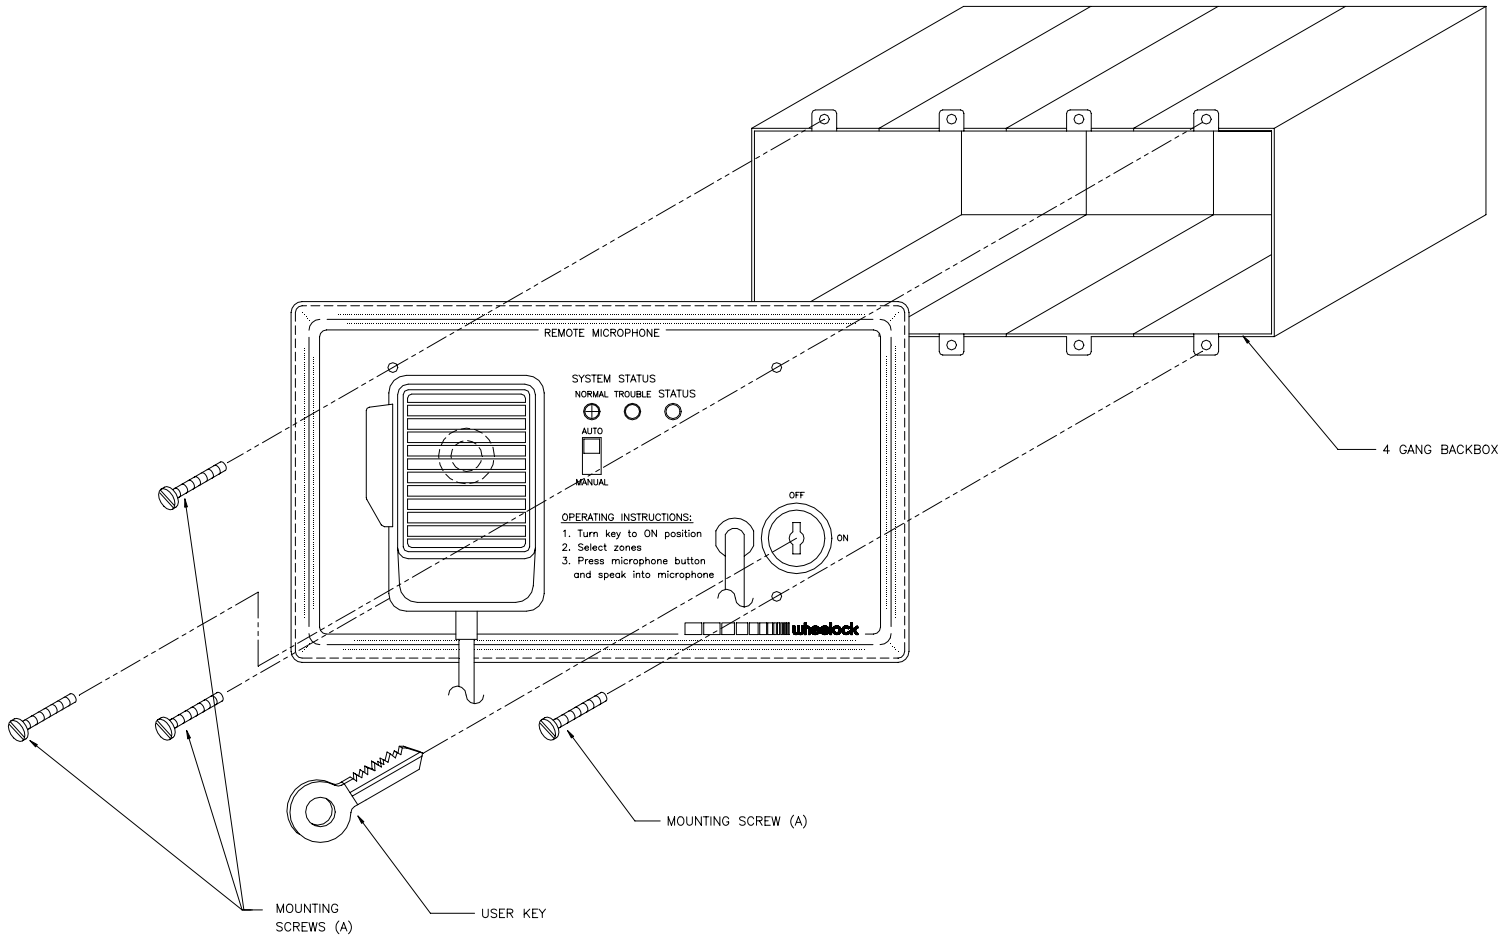

Figure 2.
3. Attach the mounting plate to the box with the 4 screws as shown in Figure 2.